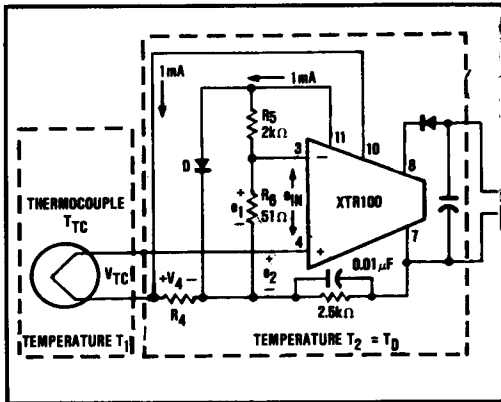

FIGURE 8. Thermocouple Input Circuit with Two Temperature Regions and Diode (D) Cold Junction Compensation.
**EXAMPLE 2 - Thermocouple Transducer** shown in Figure 8. Given a process with temperature ( $T_1$ ) limits of 0°C and +1000°C, configure the XTR100 to measure the temperature with a type J thermocouple that produces a 58mV change for 1000°C change. Use a semiconductor diode for a cold junction compensation to make the measurement relative to 0°C. This is accomplished by supplying a compensating voltage,  $V_{R6}$ , equal to that normally produced by the thermocouple with its "cold junction" ( $T_2$ ) at ambient. At a typical ambient of +25°C, this is 1.28mV (obtained from standard thermocouple tables with reference junction of 0°C). Transmit 4mA for  $T_1 = 0^\circ\text{C}$  and 20mA for  $T_1 = +1000^\circ\text{C}$ . Note:  $e_{IN} = e_2 - e_1$  indicates that  $T_1$  is relative to  $T_2$ .
R4 is chosen to make the output 4mA at TTC = 0°C (VTC = -1.28mV) and TD = 25°C (VD = 0.6V). A circuit is shown in Figure 8.